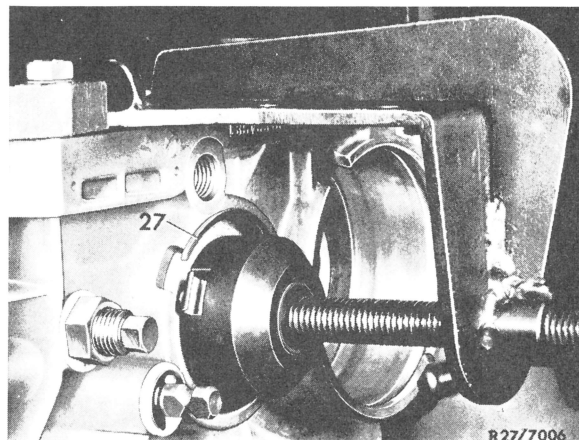

Fig. 8
**8** Position assembly fixture for brake band piston cover B 1. Tension assembly fixture and remove circlip (27) (Fig. 8).